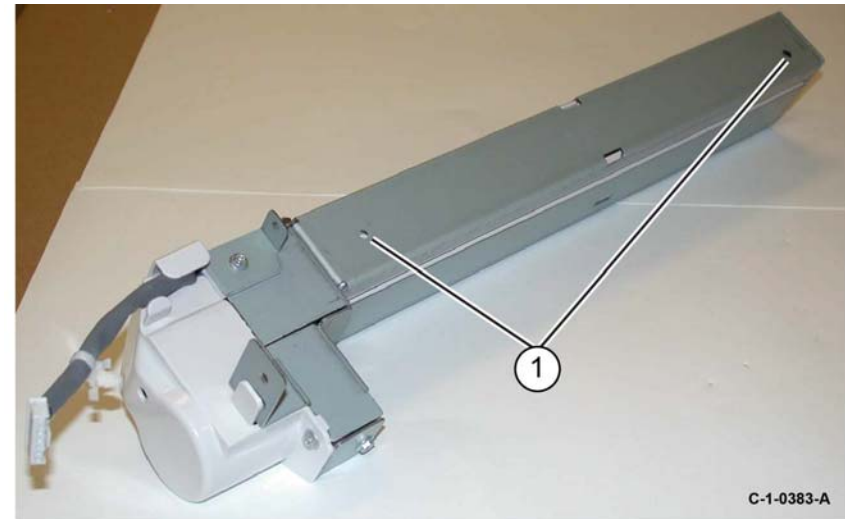

Figure 2 Crease assembly
2. Ensure the locating pins (1) are correctly engaged, Figure 2.